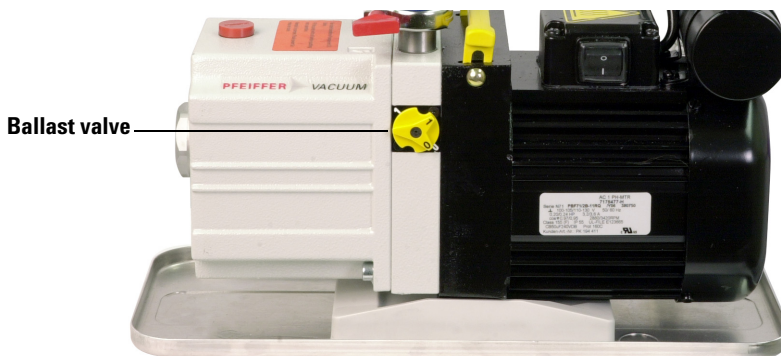

Figure 17 Minimizing ammonia damage
- 1 Turn the ballast valve on the foreline pump (Figure 17) until the 1s are aligned. The sound of the pump will get much louder.